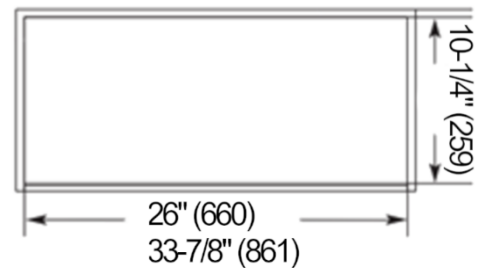

Figure 2
13. Cut out the opening where the insert will be installed. Refer to Figure 2. Refer to page 10.
15. Locate the screw holes (4) on each side of the insert. Adjust the level of the hood casing support according to the thickness of the base.